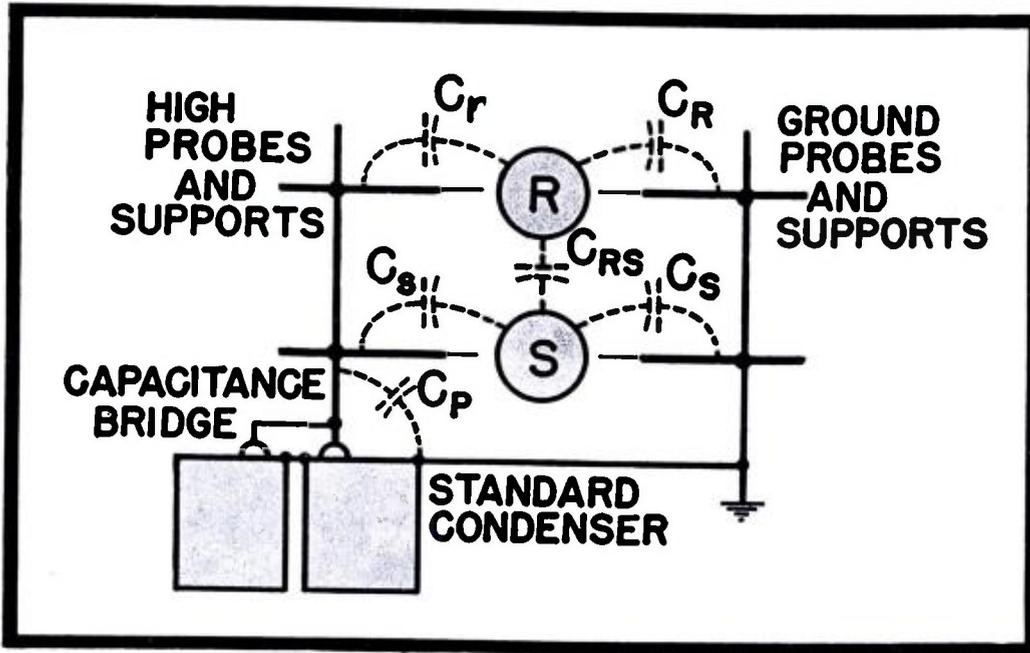

Figure 1
The parallel substitution method, in which only the standard capacitor is adjusted after an initial balance, is shown in Figure 1. The formulas are derived from this circuit, but the resulting equations can be used with data taken by direct measurement on a capacitance bridge. Rugged construction must be used in mounting the probe supports on the grounded table top and on the high terminal of the bridge and standard capacitor. (One high probe and one ground probe are supplied for each electrode in the multi-electrode system.) All probes must remain as nearly undisturbed as
Let us now refer to Figure 1. To make the measurement equations valid all electrodes except any pair such as  $R$  and  $S$  must be grounded. The notations to be used are:
- $C$ , the largest setting of the standard capacitor for balance, obtained with all probes retracted as in Figure 1.
the capacitance setting of the capacitance bridge.  $C^r$ ,  $C^s$ ,  $C^R$ ,  $C^{RS}$ ,  $C^S$ ,  $C^{rS}$  and  $C^{RS}$ , all possible settings of the standard capacitor for balance under the respective conditions in which the capital superscripts indicate connections of ground probes to the electrodes and the lower case superscripts indicate connections of high probes to the electrodes. The above superscripts correspond to the subscripts of Figure 1.